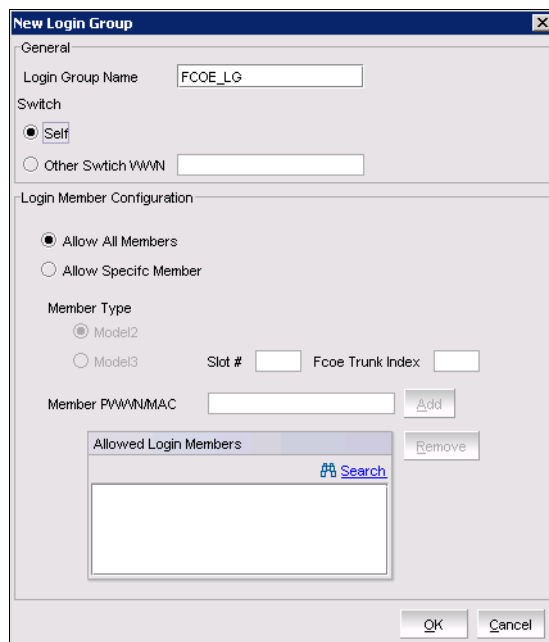

Figure 5-31 New Login Group dialog box
2. Click **New**. The New Login Group dialog box is displayed (Figure 5-31).